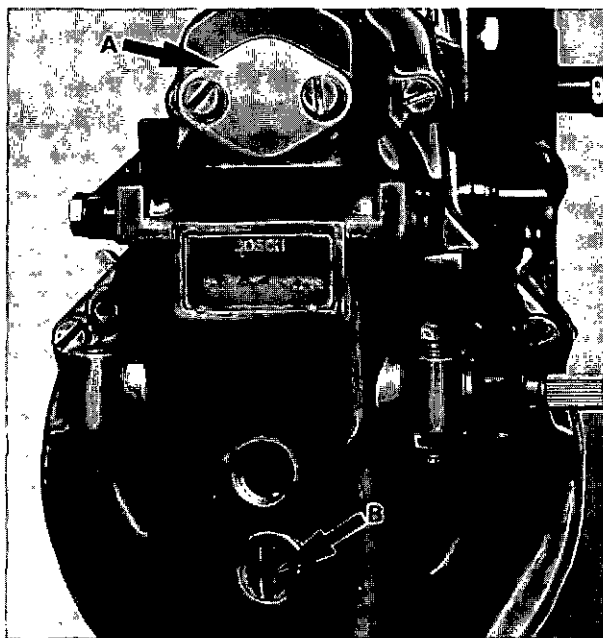

Fig. 40 Rear cover showing rack access 'A'; guide pin 'B'.
1. Unscrew the guide pin (fig. 40, Item 'B') from the rear cover. This pin is assembled with sealing compound and its removal requires an adequate and well-fitting screwdriver.